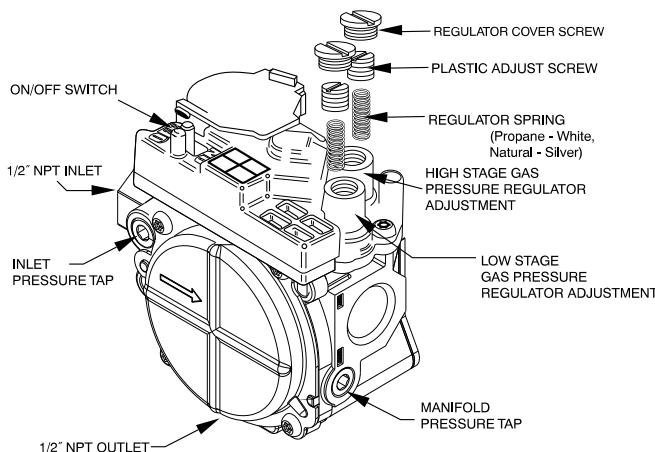

Fig. 11 – Two-Stage Gas Valve
17. Remove regulator cover screws for both high and low stage gas regulators (see Fig. 11). Save regulator cover screws.
18. Using a screwdriver, remove plastic adjust screws from both high and low stage gas regulators (see Fig. 11). Save plastic adjust screws.
19. Remove regulator springs (silver) from both high and low stage gas regulators (see Fig. 11). Discard regulator springs.
20. Install propane gas regulator springs (white) shipped with this kit. One into the low stage gas regulator and one into the high stage gas regulator (see Fig. 11).
21. Install plastic adjust screw into the high stage gas regulator. turn clockwise 13.5 turns (see Fig. 11).
22. Install plastic adjust screw into the low stage gas regulator. turn clockwise 9.5 turns (see Fig. 11).
32. Fire unit and verify proper ignition and proper sequence of operation (Table 6). See Table 8 for proper low stage and high stage manifold pressure settings for your unit. Adjust the gas valve setting for high and low stages by turning the plastic adjustment screws clockwise to increase pressure and counter-clockwise to decrease pressure for the respective stages. Refer to Table 7 for required rated heating input rates. Replace regulator cover screws when finished (see Fig. 11).